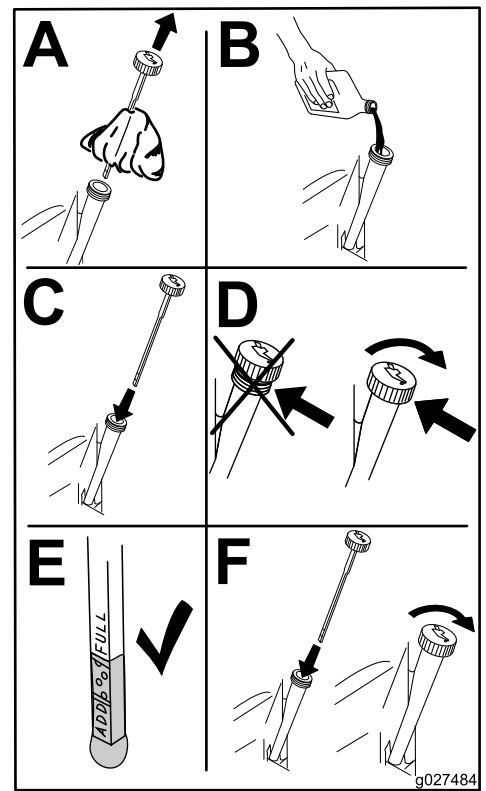

Figure 38
6. Slowly pour approximately 80% of the specified amount of oil into the fill hole (Figure 38).
7. Check the oil level; refer to Figure 38.